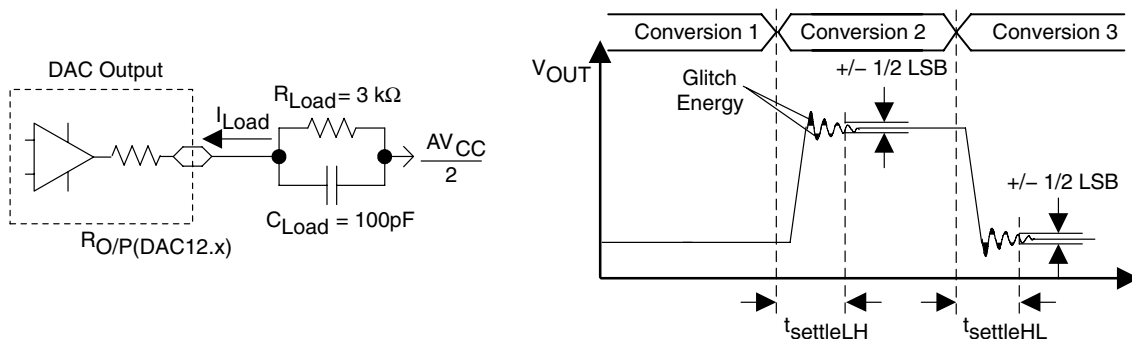
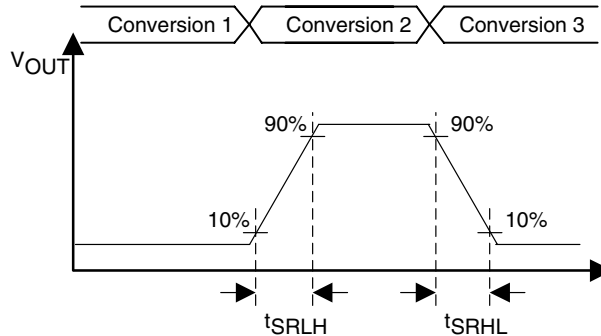

Figure 25. Settling Time and Glitch Energy Testing
Figure 26. Slew Rate Testing
12-bit DAC, dynamic specifications; V_{ref} = V_{CC}, DAC12IR = 1 (see Figure 25 and Figure 26)
- NOTES: 1. R_{Load} and C_{Load} connected to AV_{SS} (not AV_{CC}/2) in Figure 25.